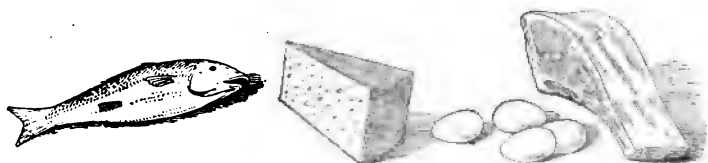

FIG. 21. — Protein foods.
**Sources of proteins:** Protein is an important constituent of meats, fish, beans, peas, cereals, and nuts. (See figure 21.)